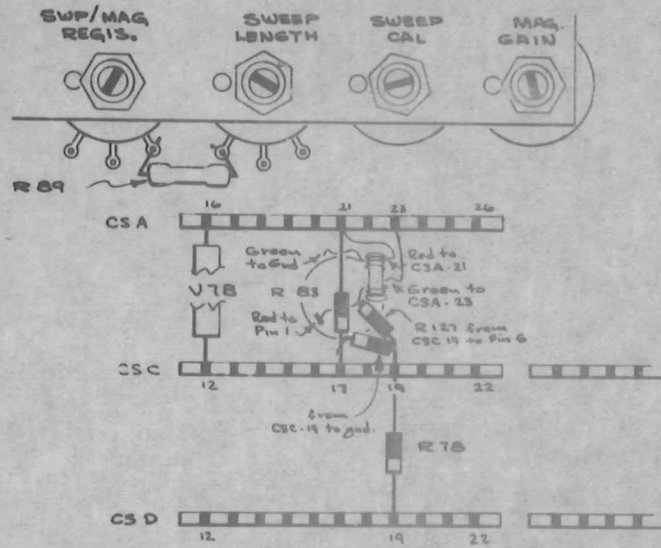

Fig. 3
- () 8. Unsolder R89 and resolder it between the Swp/Mag Regis control (R262) and the Swp Length control (R88). See Fig. 3.
- () 9. Unsolder the end of the 68k, 2w resistor (R840) connected to CSA-20 (see Fig. 3).
- () 10. Remove the 1.8meg resistor (R83) connected between CSA-22 and CSC-17 (see Fig. 3).
- () 11. Remove the bare wire connected between pin 5 of V78 and CSA-22 (see Fig. 3).
- () 12. Unsolder the white wire connected to CSA-22 (see Fig. 3).
- () 16. Remove and discard the white-brown-black-brown wire soldered between pin 6 of V78 and CSC-12 (see Fig. 3).
- () 17. Solder one end of the 6 in. white-brown-black-brown wire (from kit) to CSC-12 (see Fig. 3).
- () Dress the other end of this wire over towards the middle of the instrument, along the cable harness, and solder it to CSA-22 (see Fig. 3).
- () 18. Unsolder the remaining white-brown-black-brown wire from pin 6 of V78 and solder to CSA-22 (see Fig. 3).
- () 19. Solder the 270k, 1/2w resistor (from kit) from pin 5 of V78 to CSA-22 (see Fig. 3).
- () 23. Solder the 8.2k, 1w resistor (from kit) between pin 2 of V78 and CSC-12 (see Fig. 3).